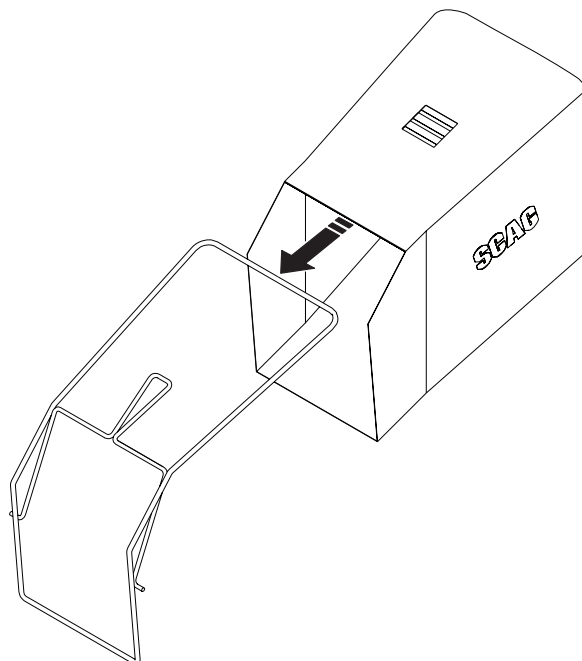

Figure 1-4. Install the Fabric Grass Collection Bag
5. Install the fabric grass collection bag over the bag frame weldment. See Figure 1-4.